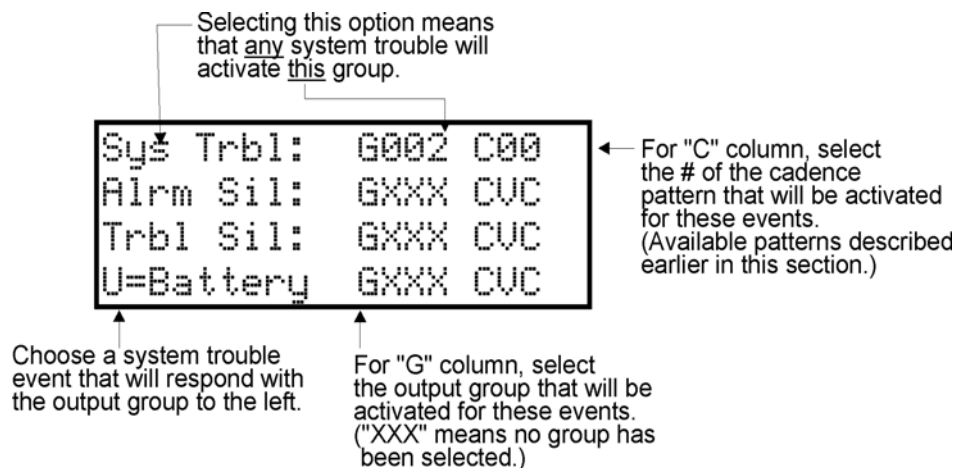

Figure 7-15 System Trouble Event Mapping Example
- Press 1 for Trouble Events. A screen similar to the one in Figure 7-15 will display. Select a group and a cadence pattern for each event as needed for your application. The U: field is for a user-specified trouble condition. You can program an output group and cadence pattern for any of the following events: